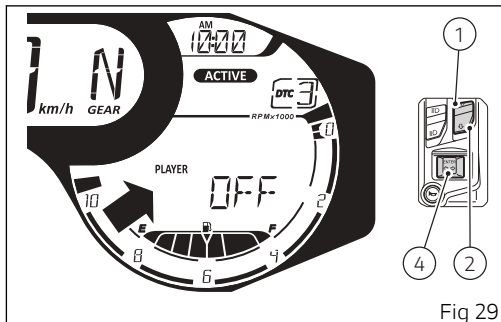

Fig 29
If Player is not active (Fig 29), the instrument panel displays "PLAYER" and "OFF". To activate it, keep button (1) pressed for 2 seconds. For the description of player use, refer to paragraph "Infotainment".